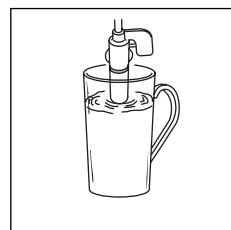
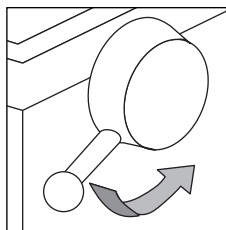
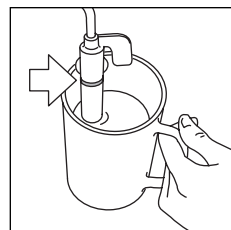

fig. 21
fig. 23
fig. 22
5. Dip the cappuccino maker into the milk (fig. 21), taking care not to immerse the raised line on the cappuccino maker (indicated by the arrow in fig. 22). Turn the steam knob at least a half turn anti-clockwise (fig. 23). Steam is given off by the cappuccino maker, giving the milk a creamy frothy appearance. To obtain a creamier froth, dip the cappuccino maker into the milk and rotate the container with slow movements from the bottom upwards.